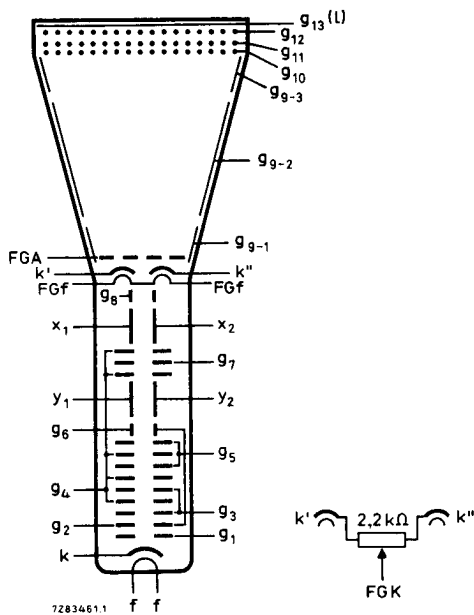

Fig. 4 Electrode configuration.
*Viewing section* (voltages with respect to viewing gun cathode FGK, Fig. 4)